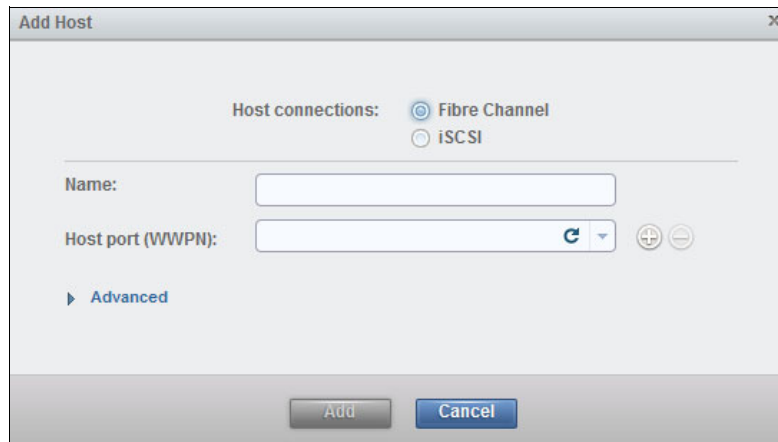

Figure 5-55 Add host wizard
2. The Add Host wizard opens (Figure 5-55). Click **Fibre Channel** to add the AIX host.